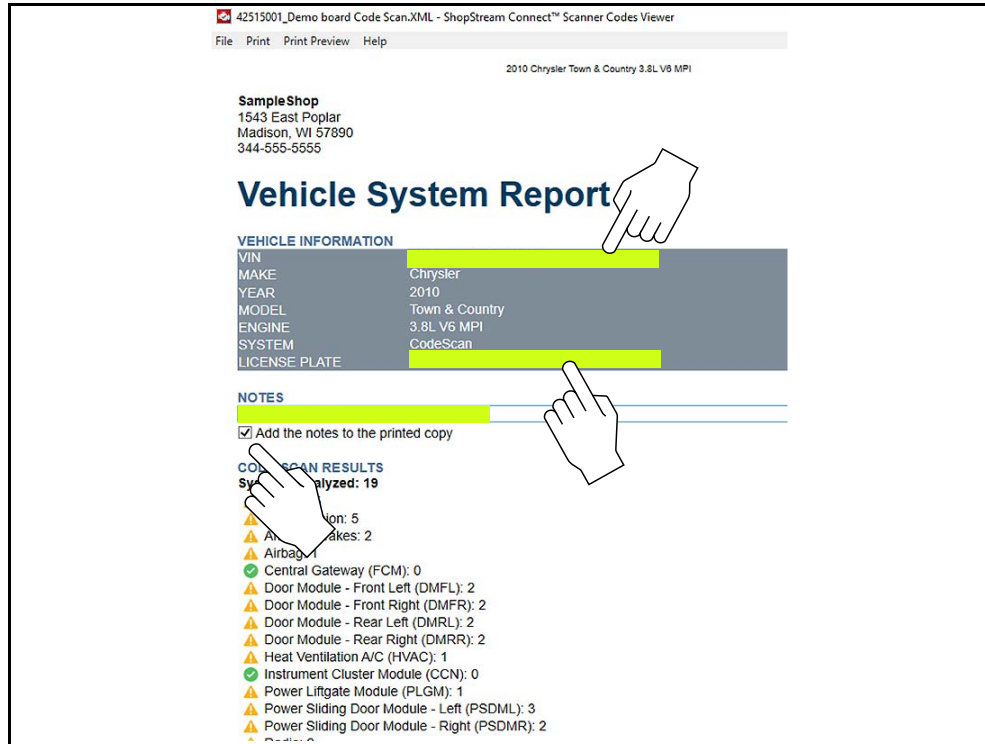

Figure 15-10
1. From ShopStream Connect, open the code scan .XML file to be edited (Figure 15-10).
2. Click in the editable fields as shown in (Figure 15-10) to change the values or add notes.
3. Check the **“Add the notes to the printed copy”** box to show the notes in the printout (Figure 15-10).